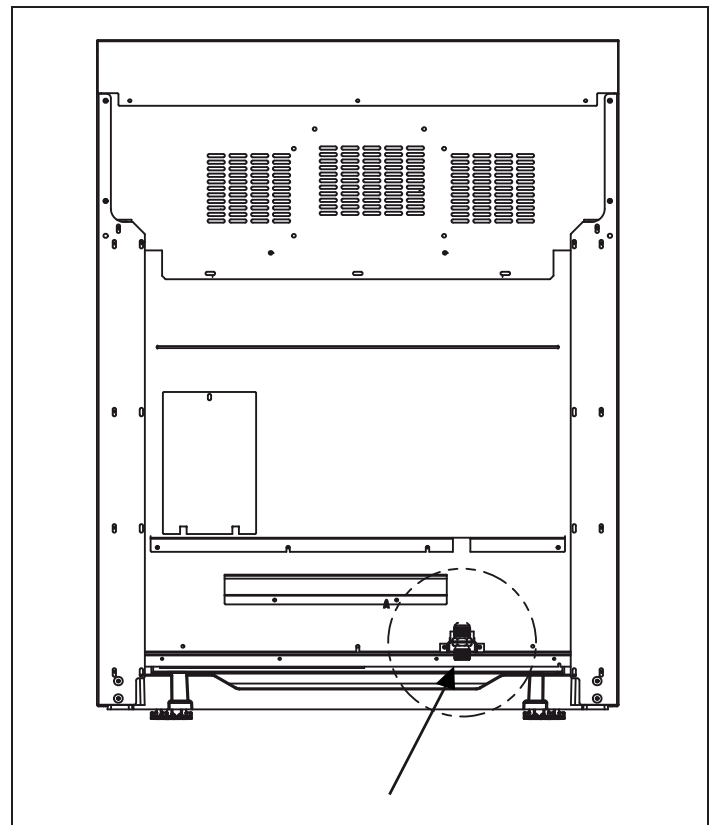

Figure 9: Location of Gas Supply Inlet Connection
- Use 3/4" flex line to connect between the gas supply and the appliance gas inlet, located at the lower right portion of the range. (See Figure 9.) The appliance inlet pipe connection is 1/2" NPT. Use caution to avoid crimping the 3/4" flex line when making bends. Suggested length of flex line is 48", however, please check local codes for your area's requirements before installation.